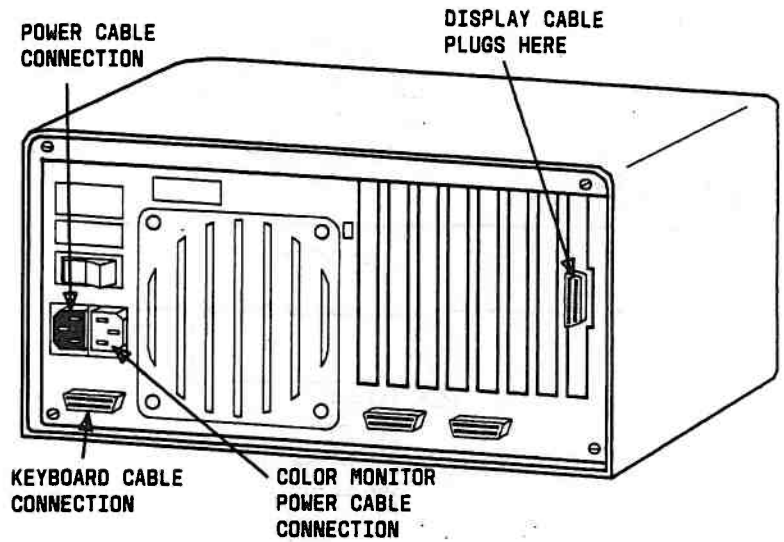

Figure 3-57. Connecting Display to the Rear Panel
3. Secure the Display cable to the Display Connector on the rear panel (Figure 3-57).